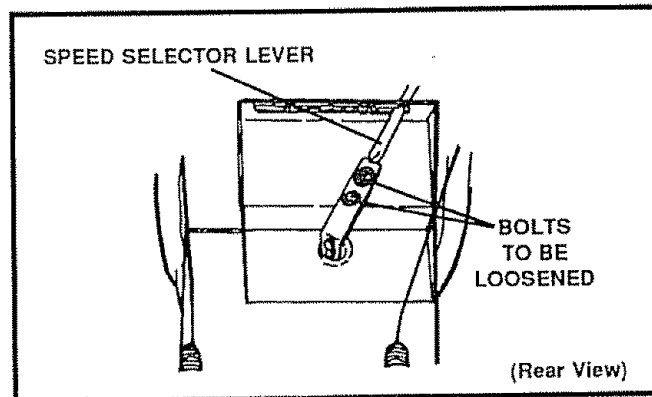

FIG. 31B
- Loosen bolts in speed selector lever (See Fig 31B)